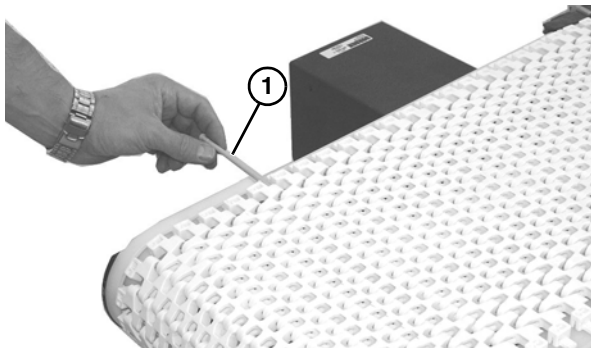

Figure 11
6. Insert the belt rod (Figure 11, item 1).